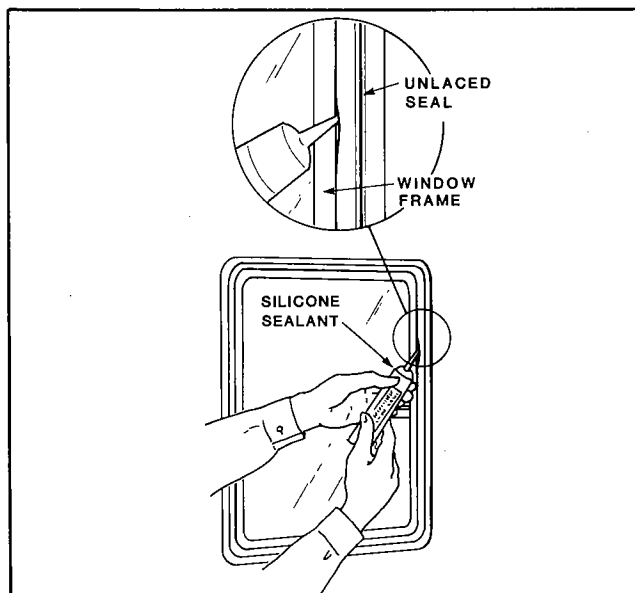

Figure 45. Sealing Around Window
5. Insert nozzle of silicone sealant applicator between U-channel and window edge and apply evenly around entire unit (figure 45).